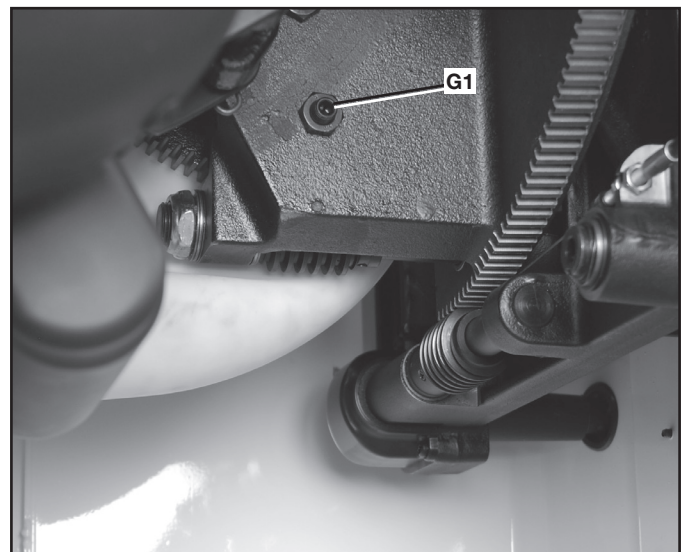

FIG. 53
2. Loosen the blade height stop jam nut (G1) Fig. 53 slightly with a wrench.